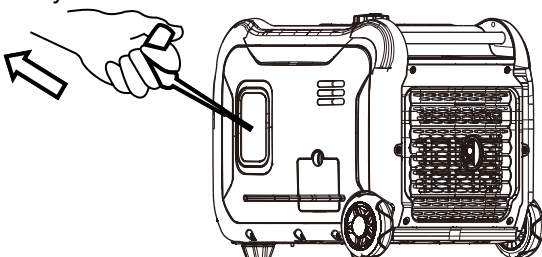

Figure 6: Pull the Recoil Handle out from Inverter
3. Then quickly pull the starting handle (see Figure 6);